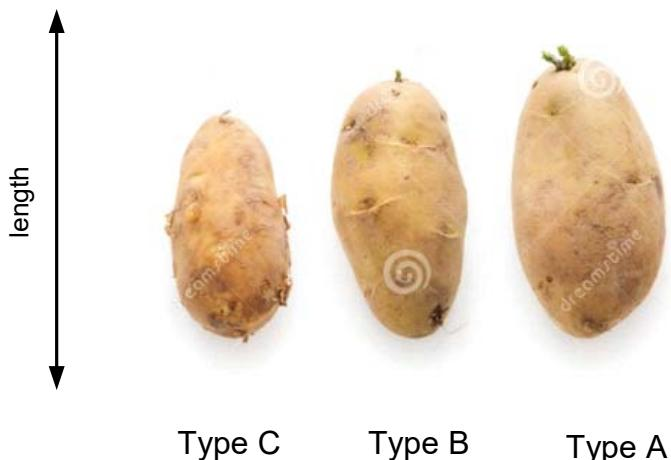

Figure 1 : Three different sizes of potatos
- (b) Explain the criteria and consideration when designing a machine vision system. Describe them by based on an example of a machine vision system for potato measurement and sorting. The size of the potato is required to be measured by the vision system with an accuracy of 0.1cm. There are three sizes of the potato as shown in Figure 1 and Table 1: